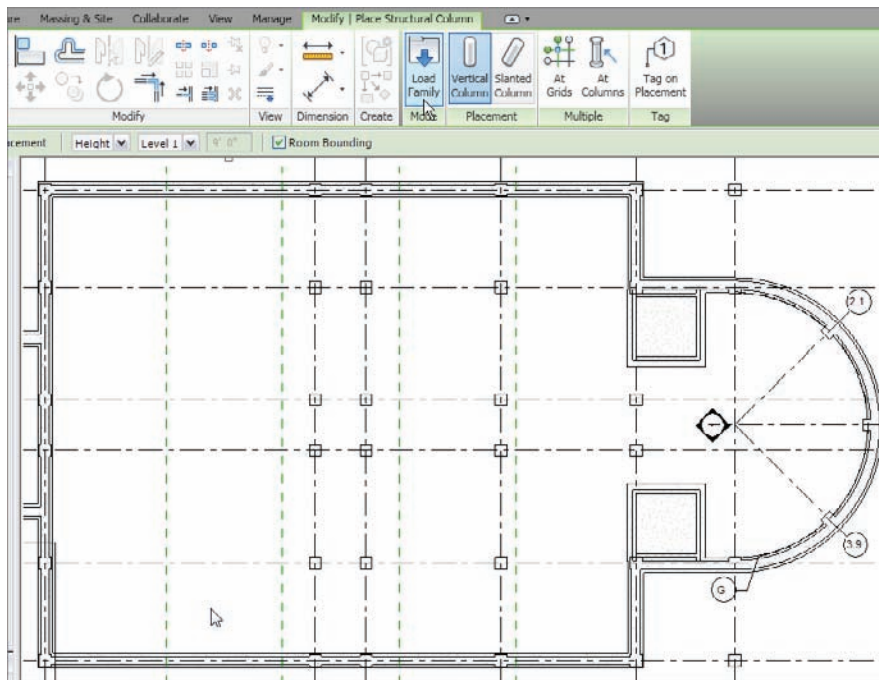

FIGURE 8.65 Start placing piers.
3. On the Insert tab, click the Load Family button, shown at the top of Figure 8.65.
8. Start placing the columns at the grid intersections, as shown in Figure 8.65. Using At Grids can speed up your work.